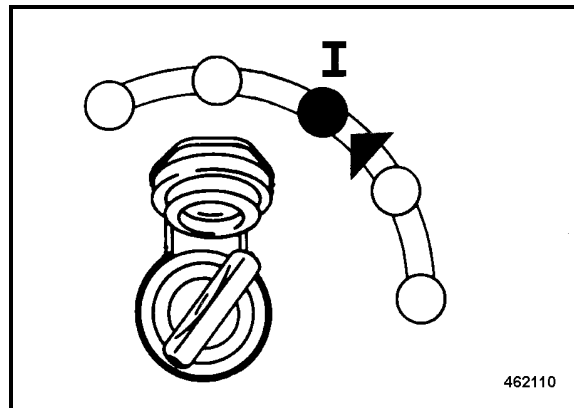

Fig. 83
- To test the pressure sprinkling system shut down the engine and set the ignition key (Fig. 83) to position "I".